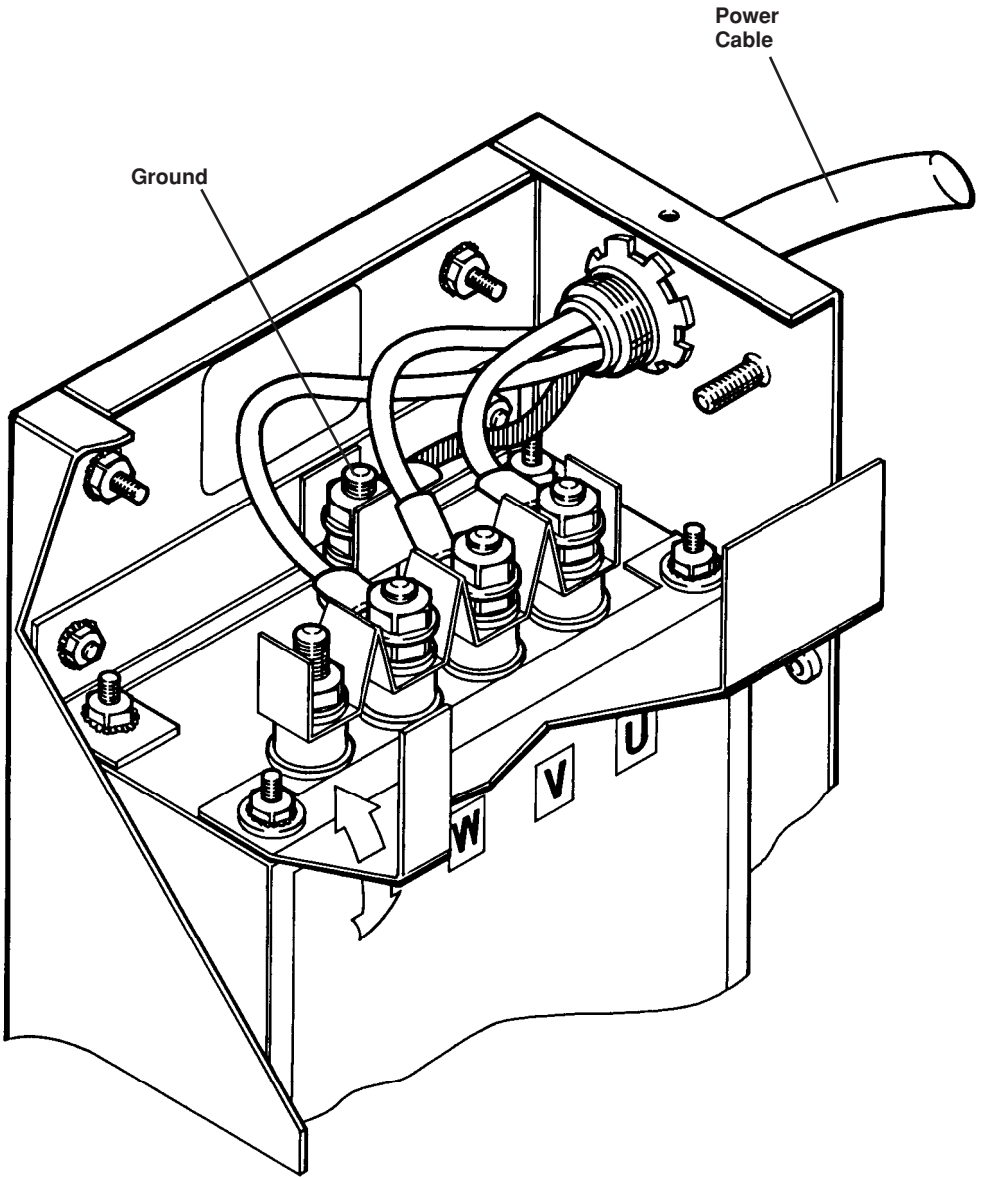

Figure 5-1 Primary Power Measurement Location – MAX100d
3. Inspect interior of unit for discoloration on pc boards, or other apparent damage. If a component or module is obviously defective upon visual inspection, remove and replace it before doing any testing. Refer to the **Parts List** section (6) to identify parts and part numbers.
5. Measure the voltage between the U, V and W terminals on the EMI filter located on the rear of the MAX100D power supply. Refer to Figure 5-1. The voltage between any two of the three terminals should be equal to the supply voltage (380 or 415 VAC). If there is a problem at this point, disconnect main power and check connections, power cable, and fuses at line disconnect switch. Repair and/or replace defective component(s) if necessary.